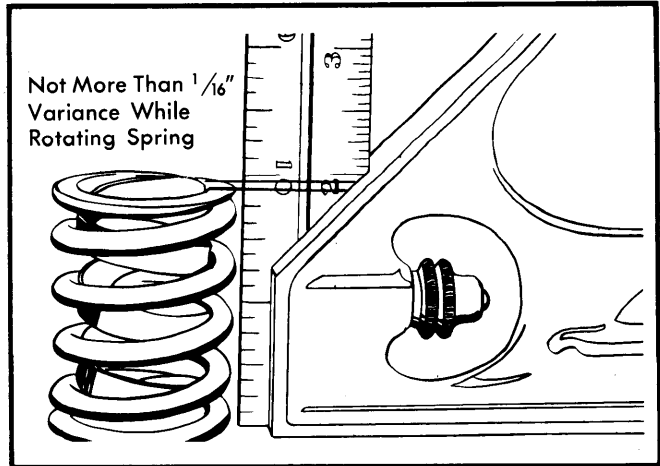

Fig. 3 Checking Valve Spring
**Inspection** – Check for squareness of valve spring as shown in Fig. 3. Spring must be within 1/16" square in free position.